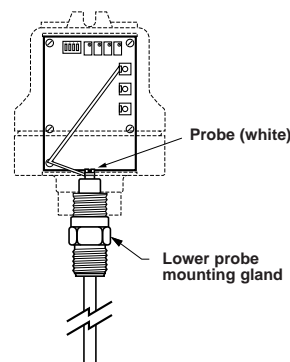

Figure 9
2. Tighten securely, being certain that the wrench is applied **ONLY** to the mounting gland. Refer to **Figure 9**.
3. Screw the amplifier housing onto the probe. Refer to **Figure 9**.
6. Remove electronic assembly by loosening three screws in base. Refer to **Figure 9**.
8. Attach white PROBE wire (shipped in plastic bag) from probe terminal on circuit board to probe screw on the top of the probe. Be sure wiring is passed through opening on the bottom, left of the circuit board; and the bottom, center of the mounting bracket. Refer to **Figure 9**.